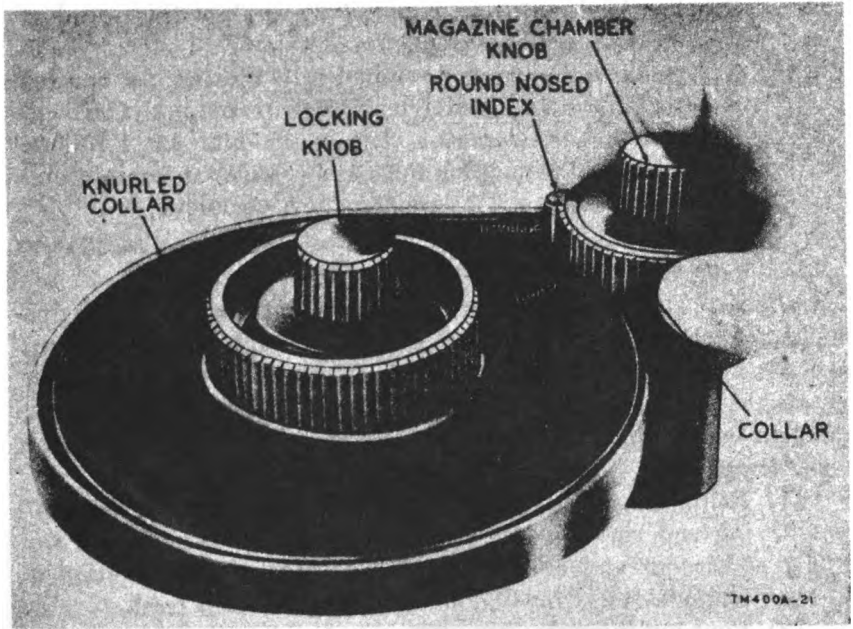

Figure 21. Cutting film after loading.
- (6) To cut the film and make the developing chamber lighttight, turn the knurled collar and the round-nosed index (fig. 21) clockwise with a firm, rapid action to move the index pointer from **LOAD** to **DEVELOP**. Do not hold the magazine chamber knob.
- (7) Rotate the knurled collar (fig. 21) counterclockwise 1 full turn to draw the end of the film into the reel. Rotate the magazine chamber knob (fig. 9) clockwise 1 complete turn, and lift the empty magazine from the chamber.
- (1) Refill the tank with 16 ounces of fixer solution after developing and rinsing. Agitate for the first 30 seconds and for 5 seconds at 2-minute intervals thereafter until fixation is complete. Fix for 10 minutes if the solution is fresh.
- (2) Pour out the fixer; it may be saved and re-used four or five times if it is stored in a capped bottle.
g. Washing. Turn the knurled collar of the film magazine (fig. 21) to the LOAD position, and place the opening of the magazine chamber under a water faucet. Allow a slow, steady stream of water to flow into the tank for 1 hour. For faster washing or when water is scarce, remove the cover assembly and place the tank in a bucket or deep tray. Wash for 5 minutes each in six changes of water.
h. Drying (fig. 22). To dry the film, fasten the end, while it is still on the reel, to a film clip suspended from the ceiling or from a shelf. Depress the locking knob (fig. 21) to allow free rotation of the reel and pull the reel downward until the film is unwound. Release the film from the reel and place a second clip on the lower end for weight.
j. Cutting Film (fig. 21).